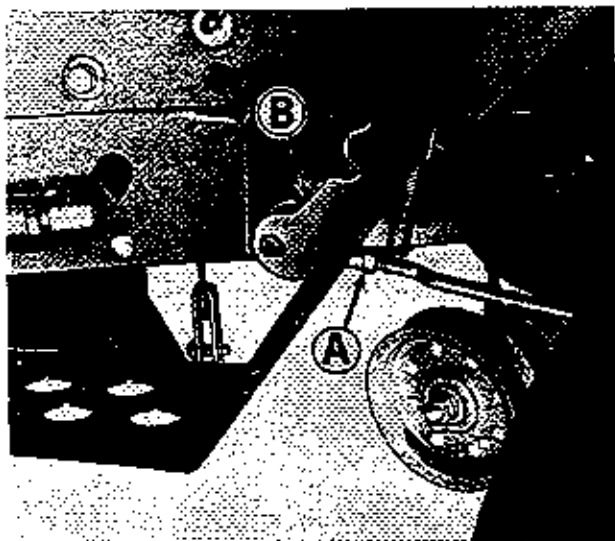

Figure 14. Parking brake adjustment on left side of tractor.
1. See figure 14. NOTE: ALL DIRECTIONS GIVEN FOR ADJUSTING THE PARKING BRAKE, ARE AS IF YOU ARE STANDING AT THE FRONT OF THE TRACTOR LOOKING BACK TOWARD THE PARKING BRAKE. Loosen nut (A) by turning it clockwise.
2. See figure 14. After insuring the tractor is either on a level surface or the wheels are blocked so it will not roll, pull forward on the parking brake handle (B) to disengage the parking brake.
3. Rotate parking brake handle (B) clockwise to tighten the parking brake, or counter-clockwise to loosen it. Turn the brake one complete revolution when making any adjustment. After turning the handle (B) one revolution place it in the engaged position to check it for correct adjustment. The correct engaged position is as shown in figure 14, with the handle at approximately the one o'clock position as you face it from the front of the tractor.
4. After the correct adjustment has been made, use a wrench to tighten nut (A) securely by turning it counter-clockwise.